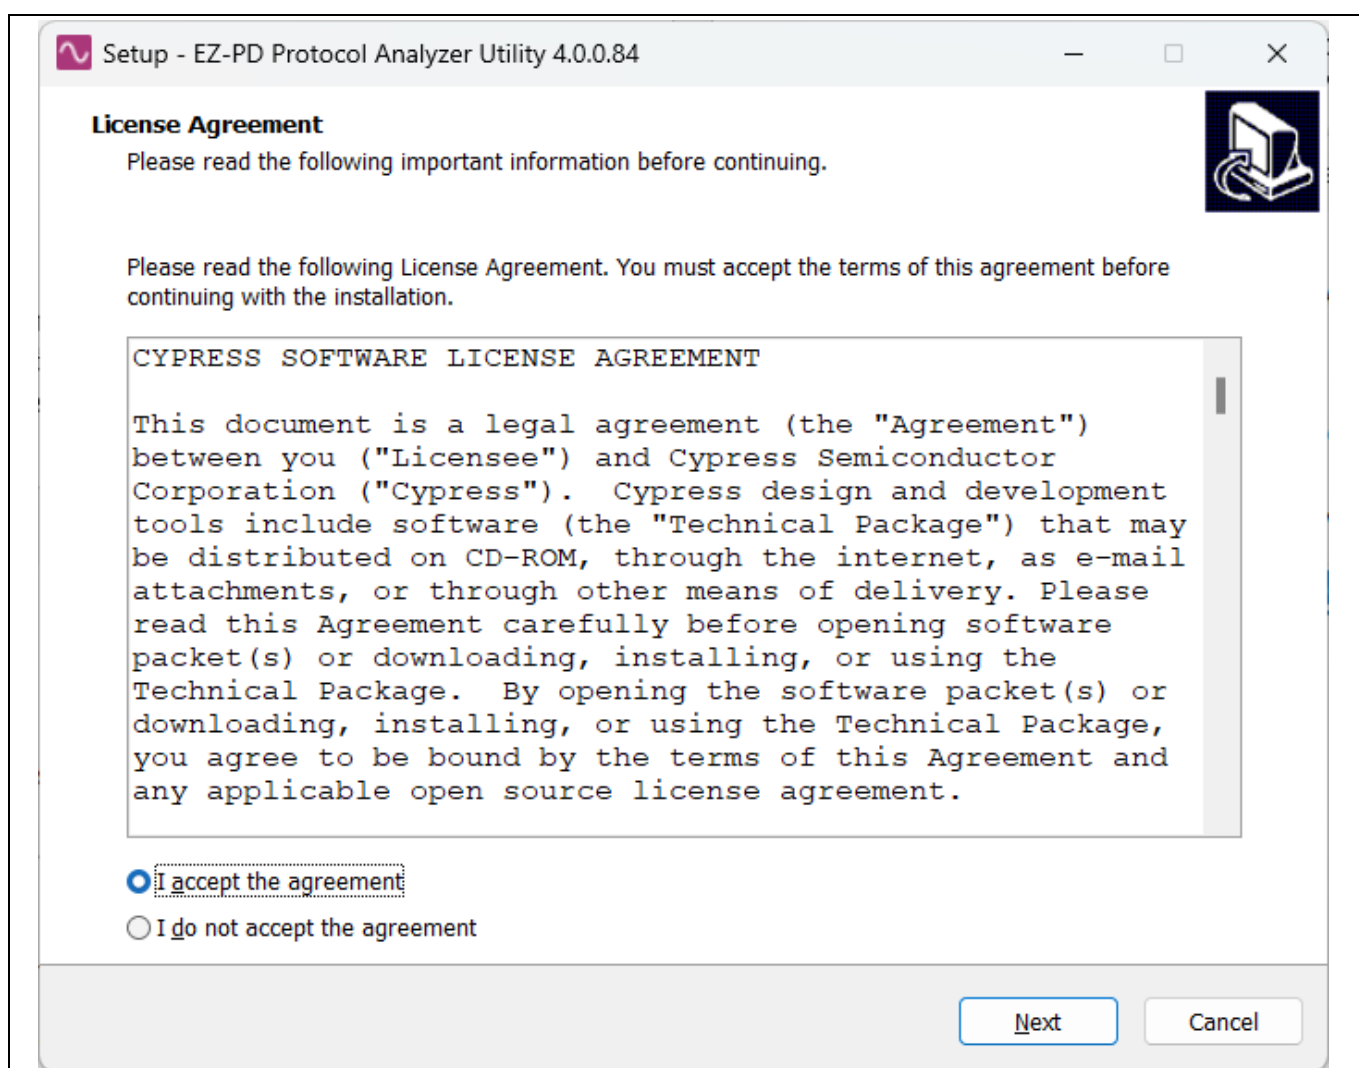

Figure 5 Install the software – Accept the license agreement
1. Download the latest EZ-PD™ Protocol Analyzer Utility software setup file from EZ-PD™ Protocol Analyzer Utility. This package contains the software for running the analyzer and the relevant documentation (user guides, Quick Start Guides, and release notes). Double-click on the executable to start the installation. Read the license agreement and click the “I accept the agreement” radio button when the screen shown in Figure 5 appears.